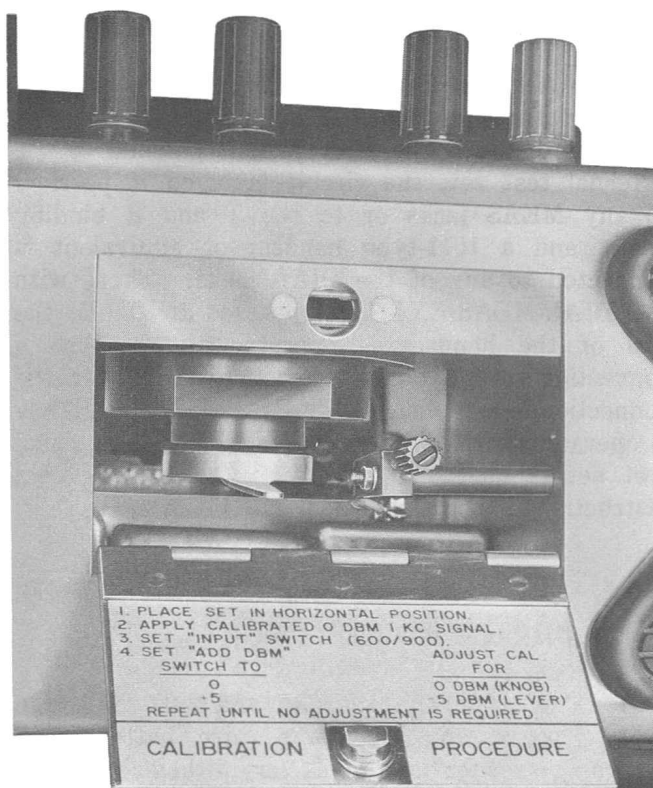

Fig. 8—Calibration Controls of the 23A and 23D Transmission Measuring Sets
4.01 The 23A and 23D TMSs are rugged and stable, and it is expected that the calibration will be quite stable under normal conditions of use and handling. However, the calibration should be checked frequently to guard against possible malfunction of the set due to misuse or component failure. The calibration procedure appears on the inside of a door which opens on the front side of the case. Two calibration controls are accessible through this door. A lever-type control (on the left side) is used to calibrate the meter at the -5 dB point, and a potentiometer with a knob control (on the right side) is used to calibrate the meter at the 0-dB point. Figure 8 shows a view of the calibration controls and the door.